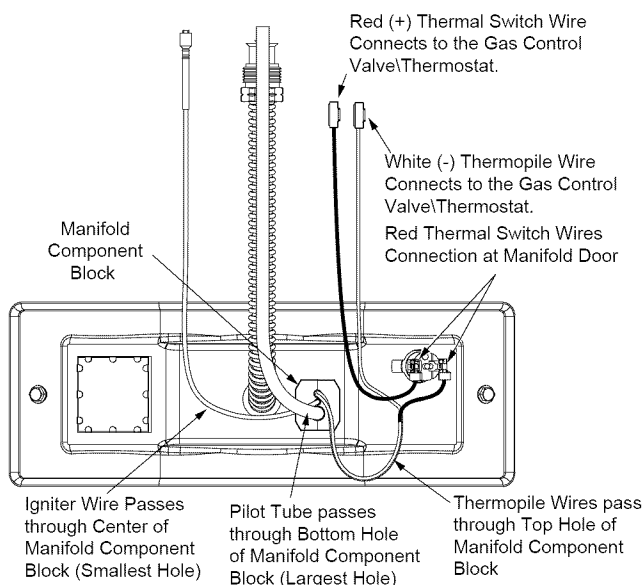

FIGURE 38.
7. Route the new pilot tube, new igniter wire and new thermopile wire through the opening in the manifold door (Figure 38).
9. Reinstall the manifold component block in the manifold door (Figure 38).
7. Connect the white (-) thermopile wire to the gas control valve/thermostat. Then connect the red thermal switch wires to the thermal switch on the manifold door. (Figure 38).